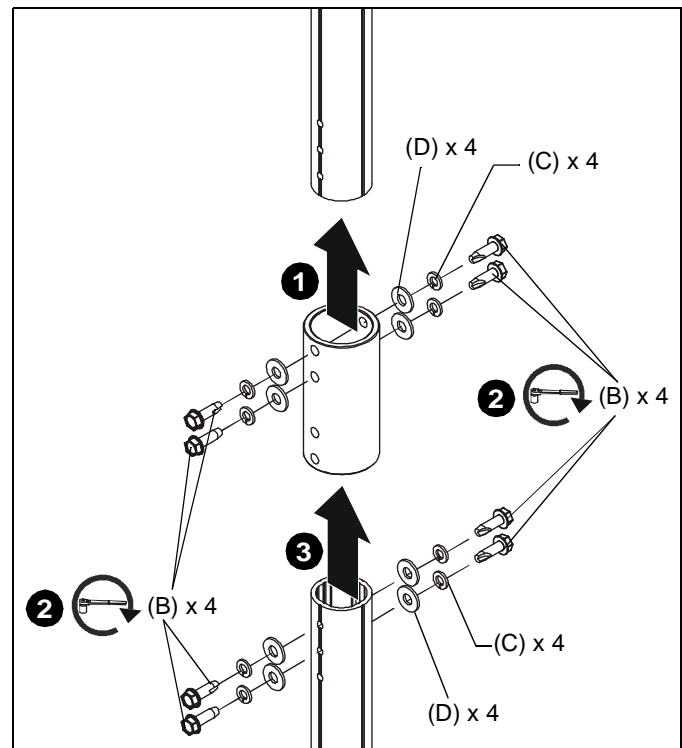

Figure 1
1. Slide CPA263 (A) onto installed UL Listed CPA extension column, lining up holes in CPA263 with holes in extension column.
2. Install four 5/16" x 1" self-tapping screws (B) through four 5/16" split lock washers (C), four flat washers (D), and into installed extension column. (See Figure 1)
3. Install UL Listed CPA extension column (not included) following instructions included with extension column and using four 5/16" x 1" self-tapping screws (B) through four 5/16" split lock washers (C), and four flat washers (D). (See Figure 1)